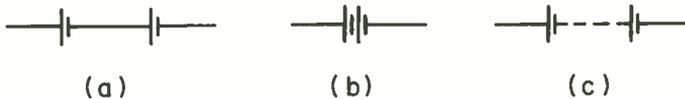

Fig. 13 Battery symbols.
9 **SYMBOLS FOR SERIES-CONNECTED BATTERIES OR CELLS . . .** Figure 13 shows three common symbols for series-connected batteries. If the cells are separated and a line is drawn between them, as in (a), this indicates that the battery consists of two individual, separate batteries. An example of this would be a battery made out of two flashlight cells connected in series. The symbol in (b) usually—though not always—indicates that the battery has a higher voltage than a single cell and is made up of two or more cells that are all contained in a single package. A good example of this would be the common 9-V transistor radio battery that consists of six 1.5-V cells all contained in a single package. However, this symbol is also sometimes used to indicate multiple individual cells as in a large portable radio or cassette recorder in which four, six, or even eight individual flashlight cells are connected together to form a battery pack. The symbol in Fig. 13(c) indicates that the battery is a higher-voltage one made up—as represented by the dashed lines—of several separate, individual cells, usually (again, not always) three or more in number.
9. If the batteries in Fig. 13(a) will supply a constant current for 20 hr, how long will one of the batteries supply the same current? *20hr.*